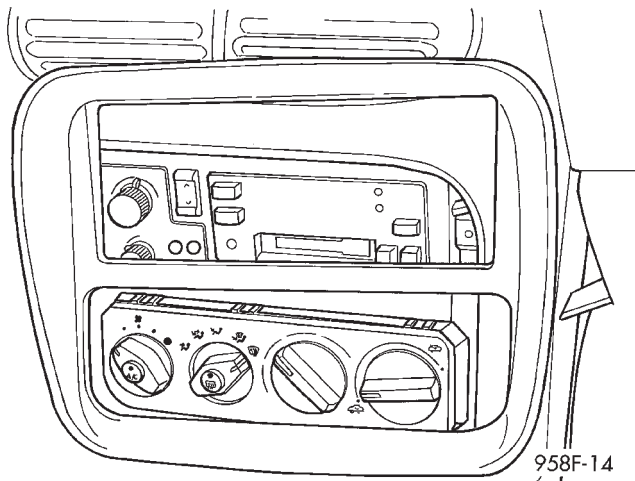

Fig. 8 Center Bezel Removal
- (1) Remove center bezel by pulling straight back (Fig. 8).